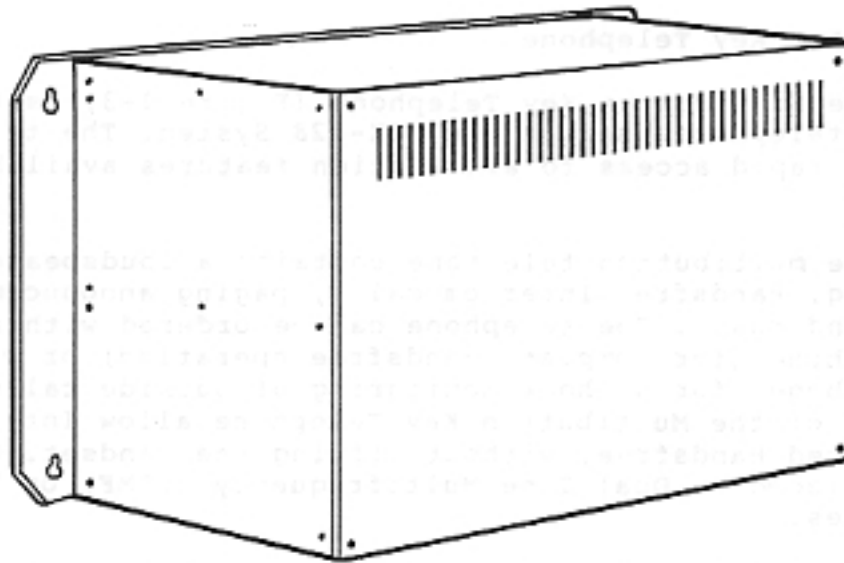

Figure 1-1 KSU AND EXPANSION CABINET, TCX-128
2.04 The TCX-128 Key Service Unit (KSU) and Expansion Cabinet (Figure 1-1) are wall-mounted, convection-cooled equipment cabinets. The KSU and the Expansion Cabinet contain all the replaceable Printed Circuit Boards used as the common control equipment for the system.